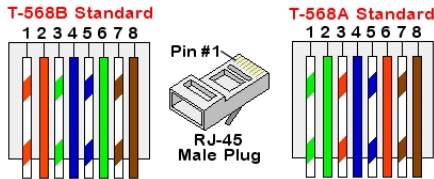

Figure 27: Standard cable wiring
- c. Insert the eight wires into an RJ45 connector, as described in *Figure 27*
8. For the switch/router side, use a pre-terminated cable or use a crimper to prepare an RJ45 communication connector: Insert the eight wires into the RJ45 connector in the same order as above (*Figure 27*).